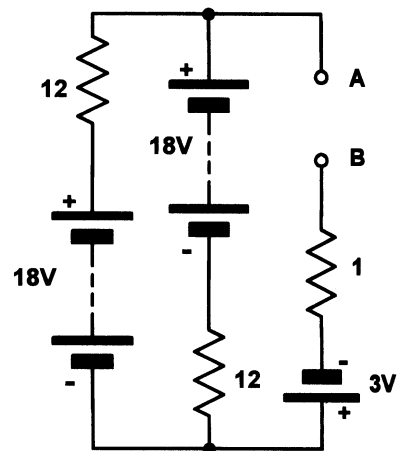

Figure 3.46
- 3.15 Determine the Norton equivalent of the circuit shown in Fig. 3.46.